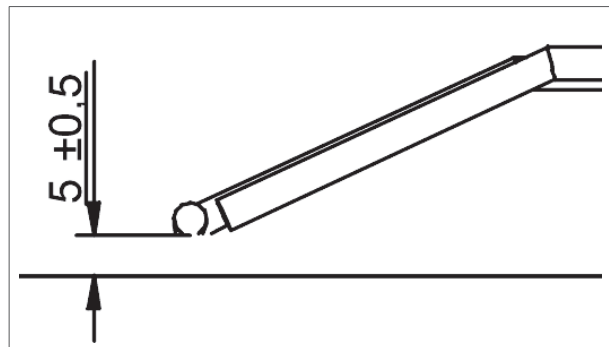

Figure 30 - Distance between the electrode and the burner
- a. The distance between the electrode and the burner should be $5.0 (\pm 0.5)$ mm (figure 30).